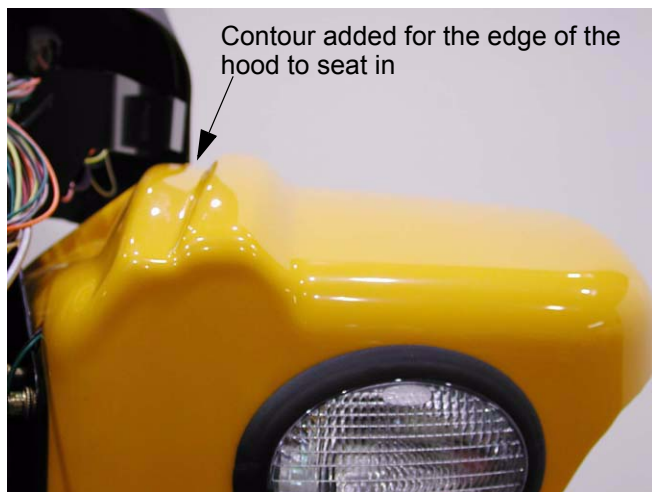

Figure 4.10
- 4.10. A more subtle change to the front fenders involves the contour where the hood meets the fender. The previous fender did not have the extra ridge to help locate the edge of the hood. See Figure 4.10.